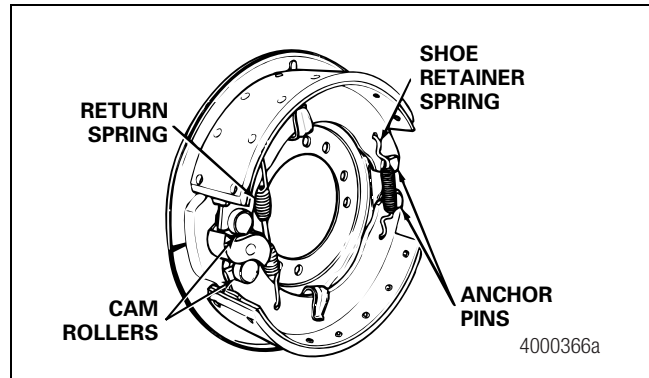

Figure 5.29
3. Install a new brake shoe return spring with the open end of the spring hooks toward the camshaft. Install the brake shoes onto the anchor pins. Figure 5.29.